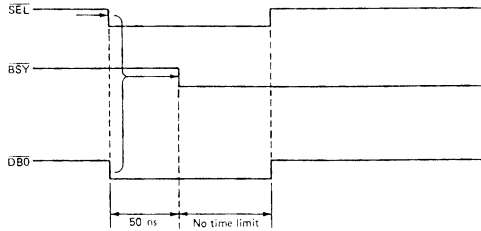

Figure 8
(1) Select
- Fig. 8 shows basic timing requirements. Upon receiving both \overline{SEL} and $\overline{DB0}$, the controller activates \overline{BSY} . During the selection process the host controls the data bus as signified by deactivation of $\overline{I/O}$. Selection is completed when \overline{BSY} becomes active. \overline{SEL} must be deactivated by the host interface before the current controller operation has completed.